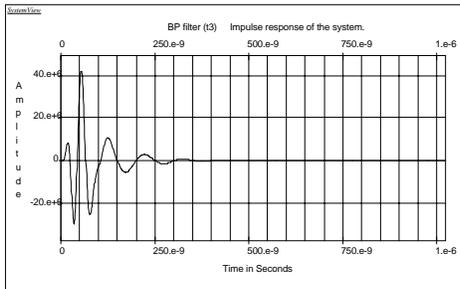
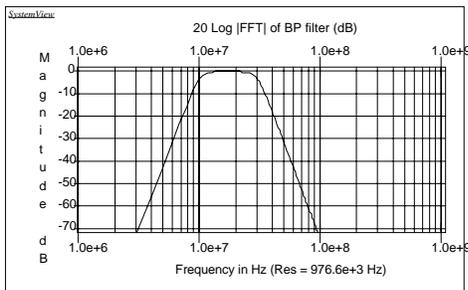
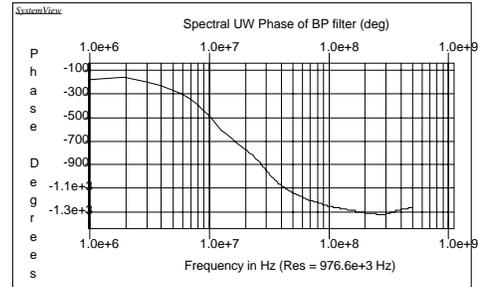

Figure 4. Analysis window impulse response.
Figure 5. Analysis window frequency response.
Figure 6. Analysis window phase plot.
3. A third way to view the frequency response of a system is to set the source to be an Impulse gain = 1 token, Run the system simulation and go into the Analysis Window. Open the BP filter sink (Figure 4.) and observe the system's impulse response. The frequency response in Figure 5 is obtained by the following procedure: Select Calculator, Spectrum, 20 Log (|FFT|), OK. From the top toolbar select Lx (Log X-axis).
To get the phase plot in Figure 6, make the impulse response (Figure 4.) the active window and select: Calculator, Spectrum, Phase Unwrapped, OK. From the top toolbar select Lx (Log X-axis).